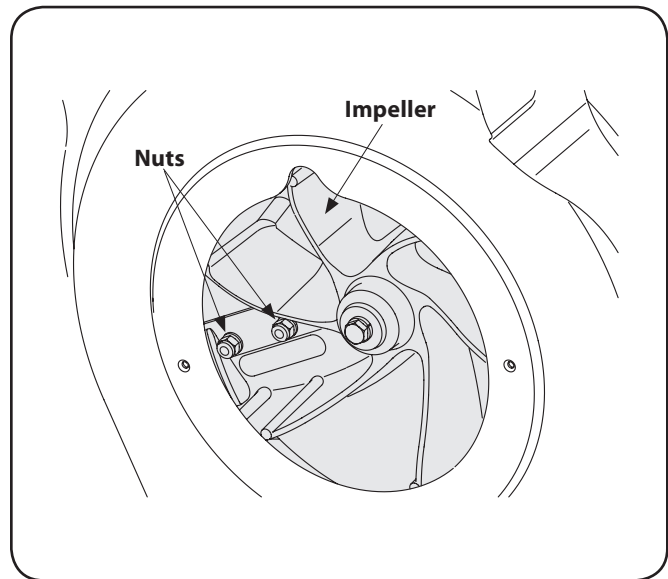

Figure 7-6
10. The nuts on the flat head cap screws can be reached from underneath using a 1/2-inch socket, universal, and extension. See Figure 7-6.